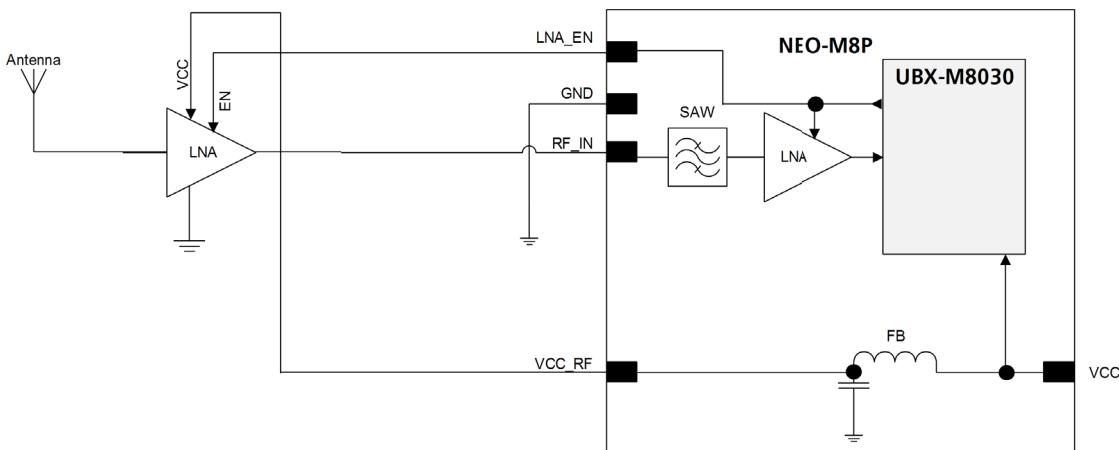

Figure 7: Module design with passive antenna and external LNA (for exact pin orientation see NEO-M8P Data sheet [1])
- Use an antenna that has sufficient bandwidth to receive all GNSS constellations. See Appendix B. Figure 7 shows a design using an external LNA to increase the sensitivity for best performance with passive antenna.